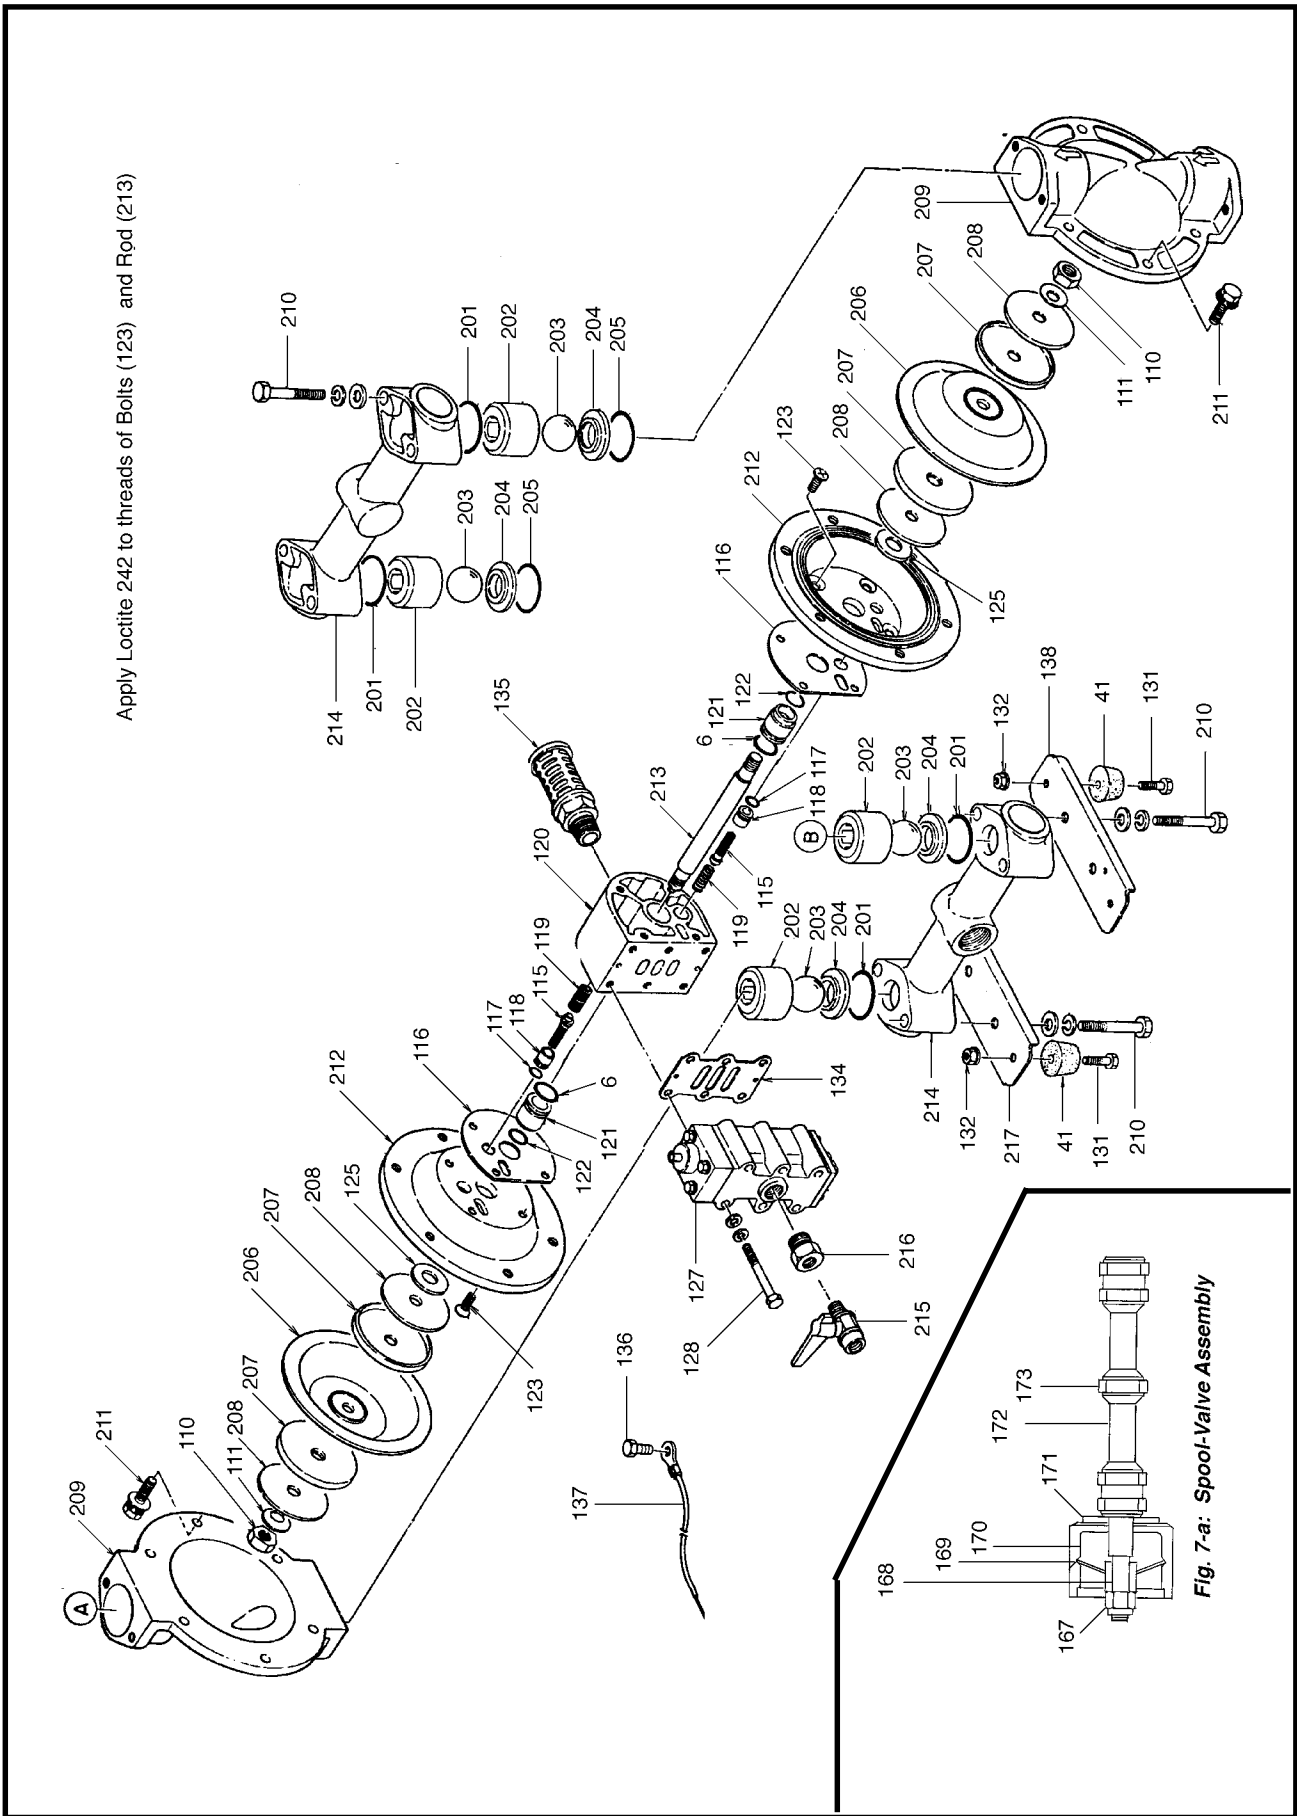

Figure 7: Components of Model 8302 Diaphragm Pump
1. Remove the six bolts (128) with lockwashers and flat washers that hold the air-valve unit to the pump body (120) and remove it (See Figure 7).
3. Place the metal washer (157) and the rubber packing (156) on the Spool-Valve Assembly.
4. Place the top gasket (155) on the air-valve body.
5. Place the reset button (154) with “O” ring (153) into the top cap (152).
6. Reattach the top cap onto the air-valve body and secure with the four bolts (151). Do Not Overtighten.
7. Place the lantern ring (163) and the air-valve cushion (162) into the air valve body (161).
8. Replace the bottom cap (165) and its gasket (164) and secure with the four bolts (166). Do Not Overtighten.
9. Place the air-valve gasket (134) behind the air-valve unit (127) and secure the air-valve unit to the pump body (120) using the six bolts (128) (Figure 7).